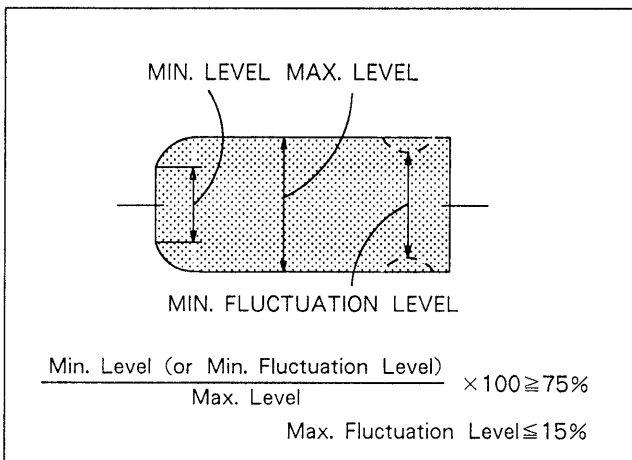

Fig. 5-2-11. Tracking Check
5. Confirm that the waveform of the RF envelope meets the specifications in Fig. 5-2-11.